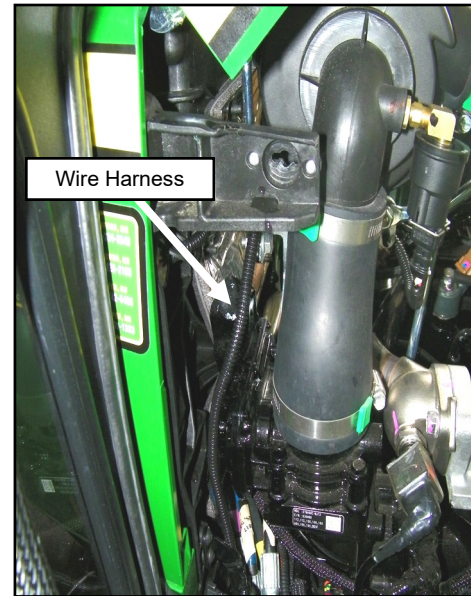

Fig. 13.7 (Wire Harness Runs Behind Engine)
- 13.7** Run the rest of the wiring harness through the engine bay behind the engine and down the left side of the engine up to the alternator. Be mindful and avoid pinch points and hot surfaces. See Figure 13.7.